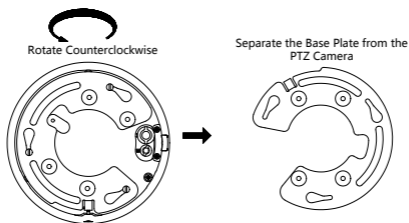

Figure 2-42 Separate the Base Plate from the PTZ camera
1. Rotate the base plate counterclockwise to separate it from the PTZ camera, as shown in Figure 2-42.